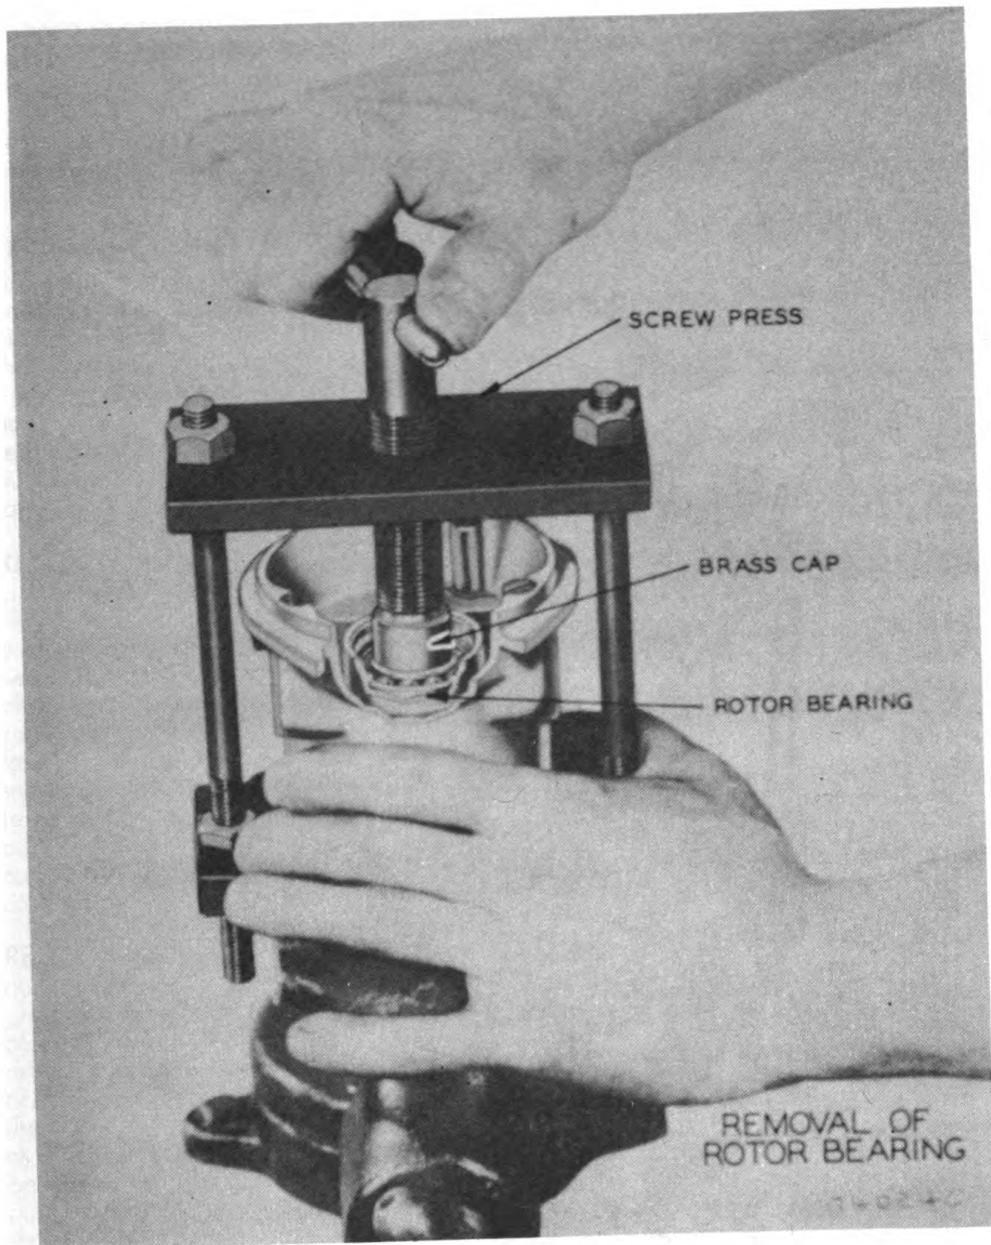

Fig. 141
**REMOVING ROTOR BALL BEARING**—After the magnetic rotor has been taken out of the frame, the snap ring holding the ball bearing in place can be reached and removed, together with the insulating washer. The magneto frame should then be placed in the screw press as shown in (Fig. 141) and the brass cap centered on the bearing. Turning the screw down will then push the ball bearing out of the frame recess, after which the insulating strip and washer adjacent to the bearing may also be removed. If the ball bearing is not worn or damaged, thorough cleaning in DY4 Cleaning Solvent and repacking with grease will place it in first-class condition.